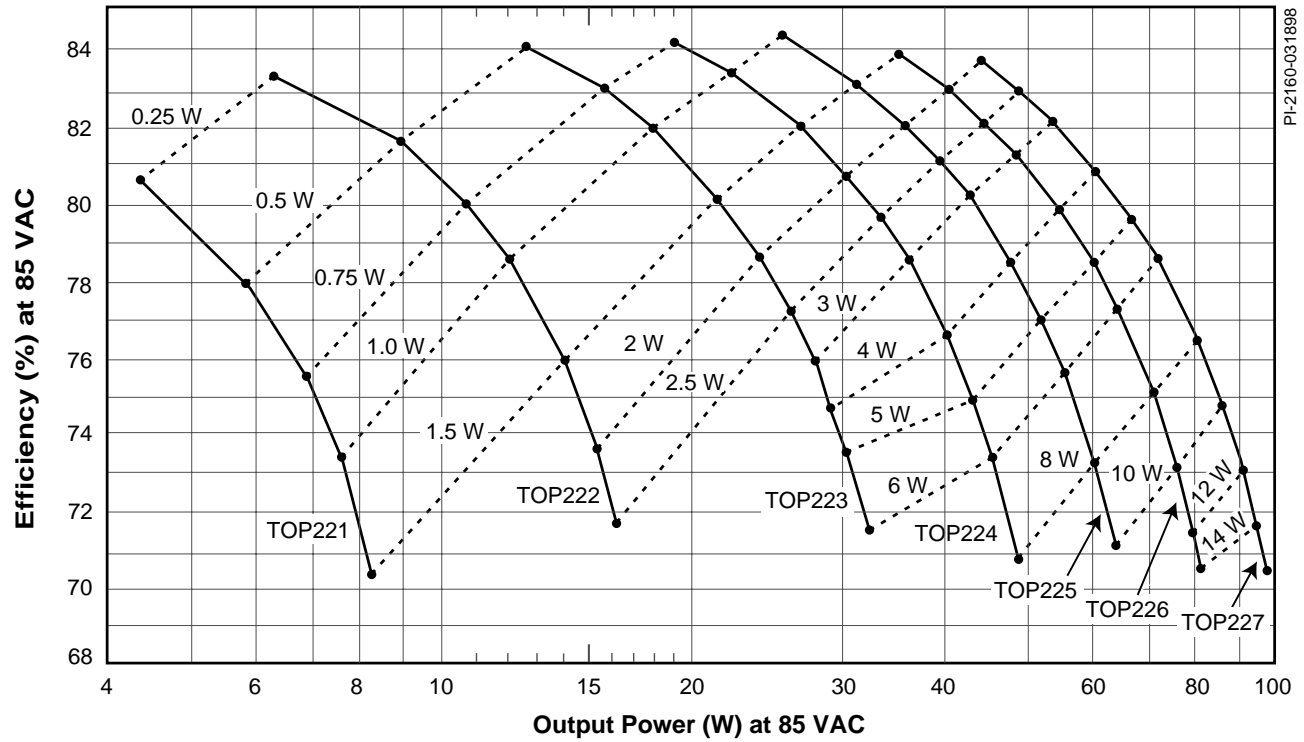
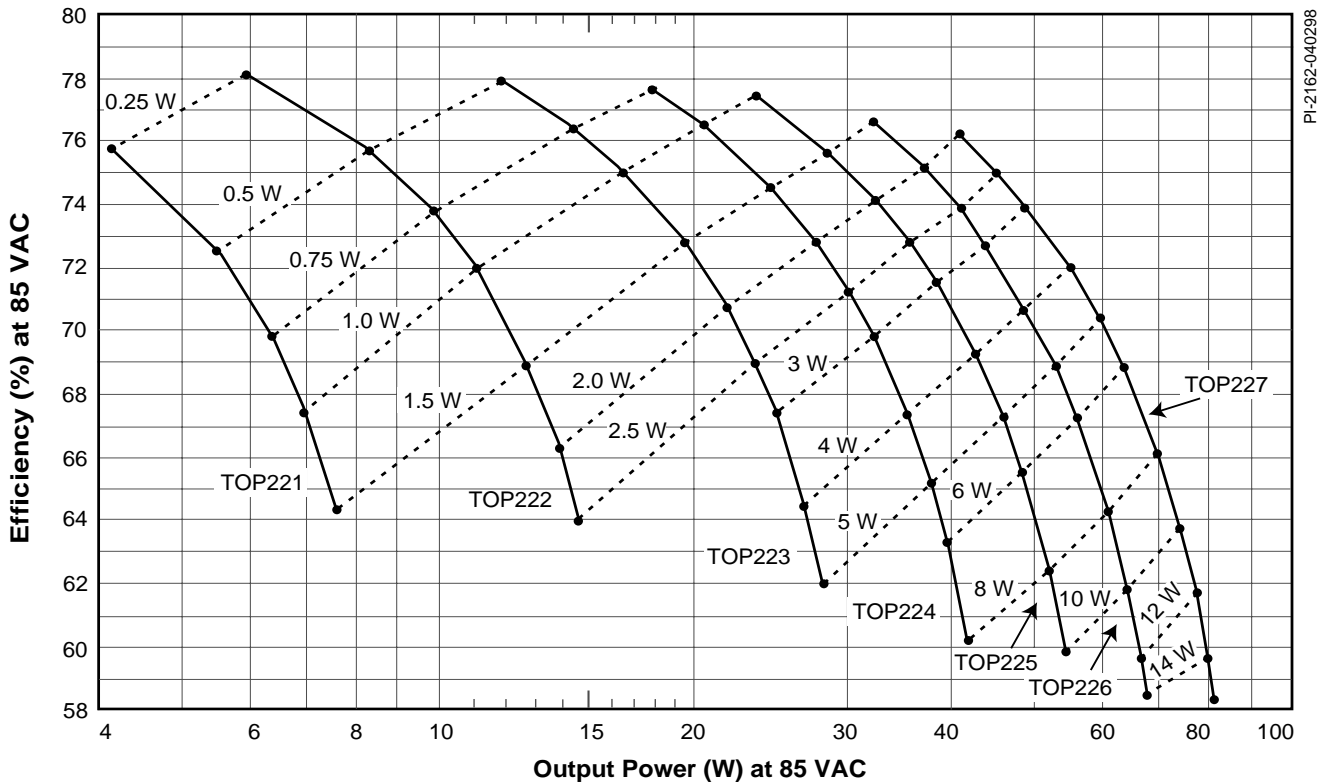

Figure 2. Typical Efficiency vs Output Power with Contours of Constant TOPSwitch-II Power Loss for Universal Input and 12 V Output.
Figure 3. Typical Efficiency vs Output Power with Contours of Constant TOPSwitch-II Power Loss for Universal Input and 5 V Output.
The *TOPSwitch-II* Flyback Quick Selection Curves consider these dissipation terms (and others as well) to provide a good estimate of expected efficiency for both Universal input and 230 VAC mains applications. Figure 2 (for +12 V outputs) and Figure 3 (for +5 V outputs) show a set of curves for efficiency and *TOPSwitch-II* power dissipation versus output power for the entire family of TOP221-TOP227 devices. These curves assume operation from a low line AC input voltage of 85 VAC, which is a suitable value for all Universal input applications.
- 1) Determine which graph (Fig. 2, 3, 4 or 5) is closest to your application.
Example: Use Figure 2 for Universal input, 12 V output.
Using Figures 2, 3, 4 and 5
Assume a +5 V application requires 30 W of output power from Universal input voltage. From the curves in Figure 3, the TOP224 can deliver 30 W with an estimated Y-axis efficiency of 71%. The projected *TOPSwitch-II* power dissipation is approximately 2.5W. The TOP225 can also be used with an expected efficiency of 75% and interpolated power dissipation of approximately 1.7 W. With these curves, a heat sink can be selected or evaluated immediately because an estimate for *TOPSwitch-II* power dissipation is now available before the design is even started!
The minimum AC input voltage has a strong influence on the choice of *TOPSwitch-II* device for a given output power. If the minimum voltage is increased above the values assumed for the curves in Figures 2 through 5, then more power will be available from each *TOPSwitch-II* device.
We can use the Output Power Ratio Curves in Figures 6 and 7 together with the original curves of Figures 2 through 5 to determine the available power for different input voltages.
This effective output power is then used with the curves in Figure 2 to select the *TOPSwitch-II* device and to estimate the *TOPSwitch-II* dissipation. Predictions of efficiency and power dissipation may be less accurate when the ratio is used. The new value of primary inductance is the product of the power ratio and original inductance value in Table 3. The new inductance value for the TOP224 would be:
The value of capacitor C1 also determines the average value of the DC bus voltage. The Universal VAC Mains curves in Figures 2 and 3 were generated with an average DC bus value of 105 VDC while the 230 VAC Mains curves in Figures 4 and 5 were generated with an average DC bus value of 265VDC.